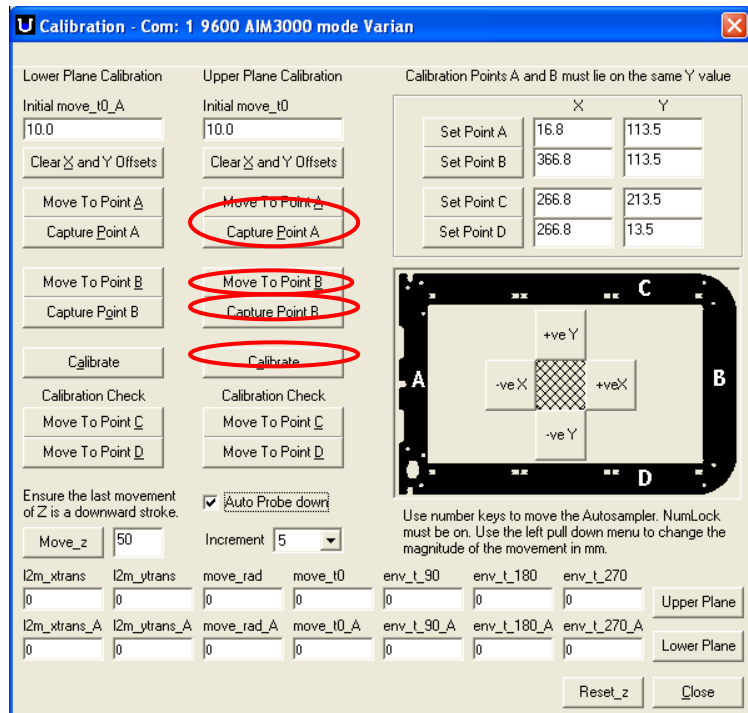

Figure 52. Capturing Point B
4. Once the probe is positioned over the point A dimple, then select the Capture Point A button (Figure 52).
6. Move the probe to position B (Move To Point B) Figure 55, and follow the same alignment process as mentioned for the position A calibration. Once you are happy with the probe alignment over position B (Figure 55) in the alignment tool, click the Capture Point B button (Figure 52). Click the Calibrate button (Figure 52) to lock in the new calibration coordinates. There is no need to check Point C and D.